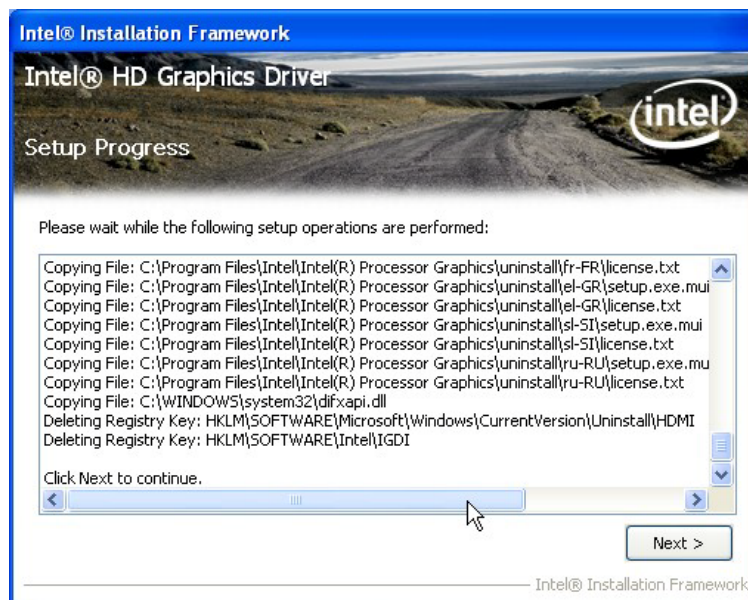

Figure 6-11: Graphics Driver Setup Operations
Step 8: Setup Operations are performed as shown in **Figure 6-11**.